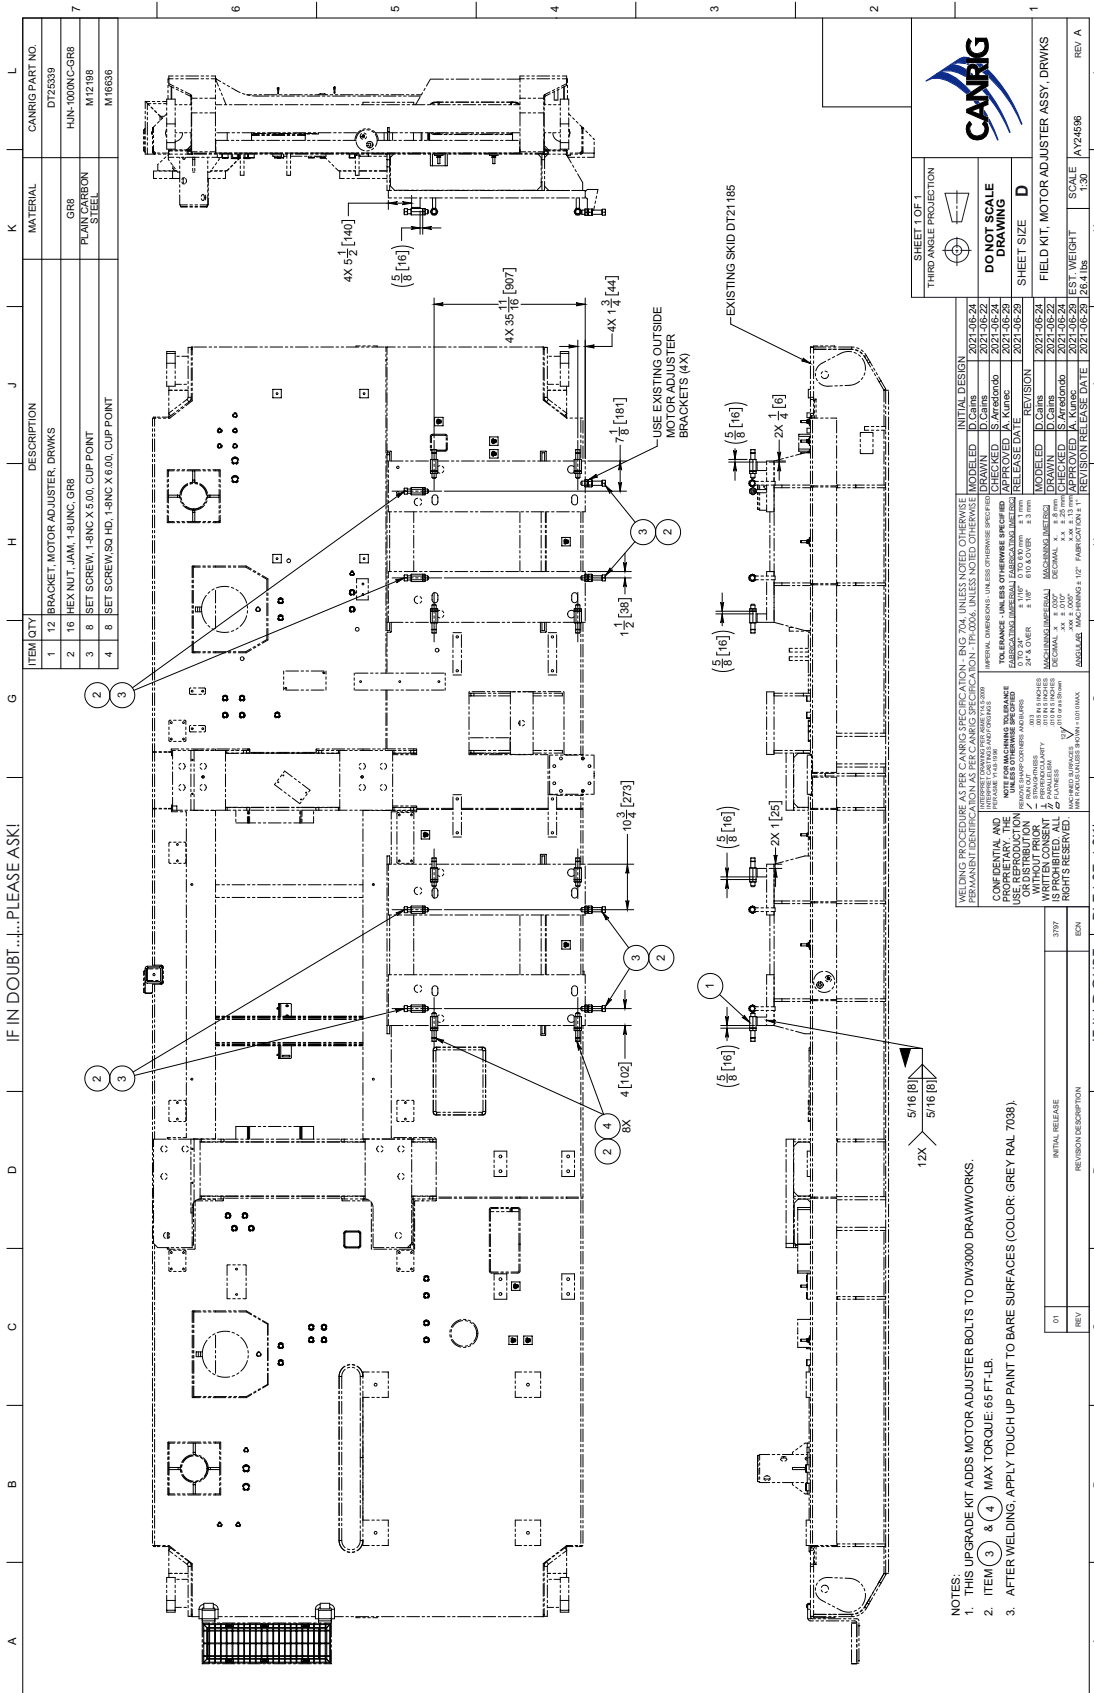

Figure 3: FIELD KIT, MOTOR ADJUSTER ASSY, DRWKS – AY24596
2. Remove existing pins, snap rings, and adjuster bolts. Replace with a non-removable, weld-on motor adjuster. See Figure 3 on page 3.
Refer to AY24596 (Figure 3 on page 3) for placement locations and welding for field installation of the motor adjusters.